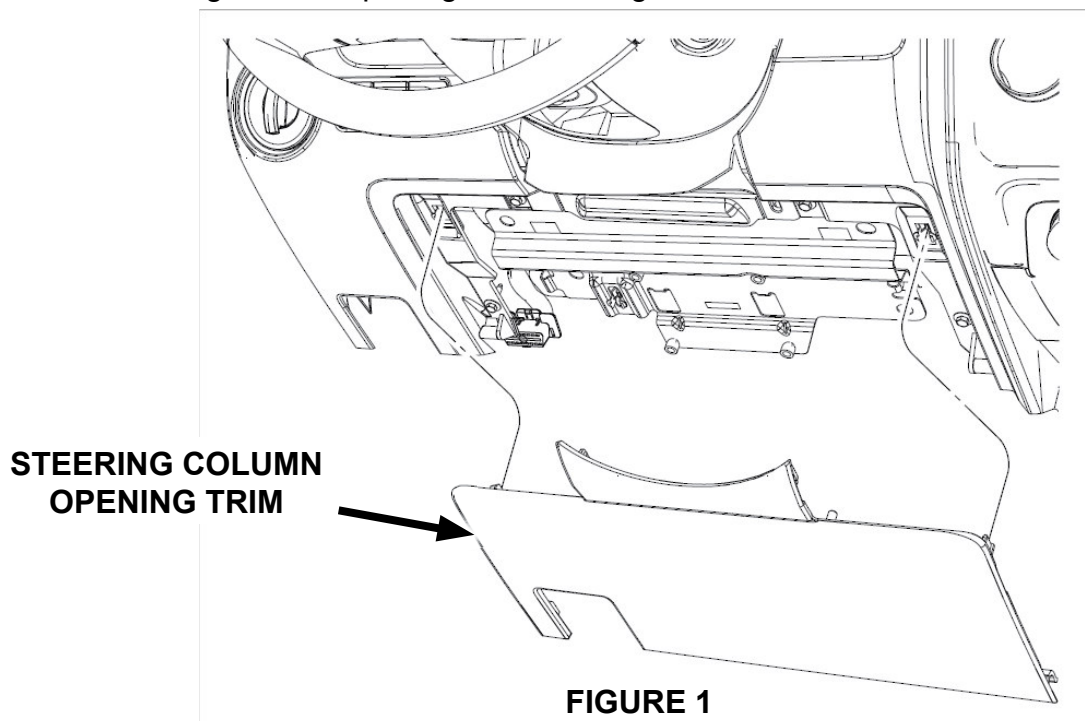

FIGURE 1
40. Install the steering column opening trim. See Figure 1.